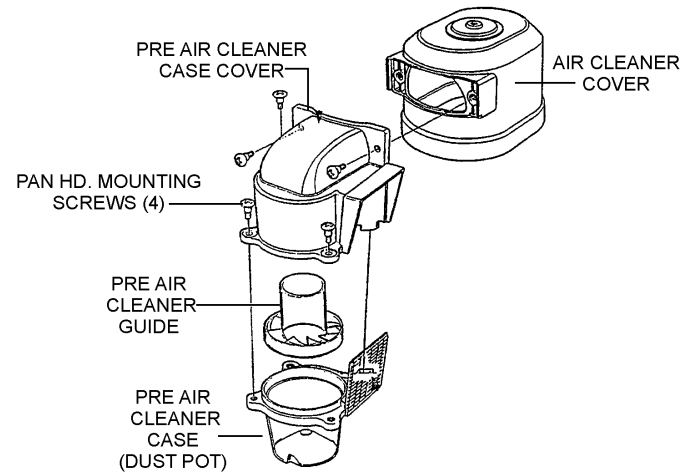

Figure 26. Removing Dust Pot
1. Remove the four pan head screws that secure the dust pot to pre air cleaner case cover (Figure 26).